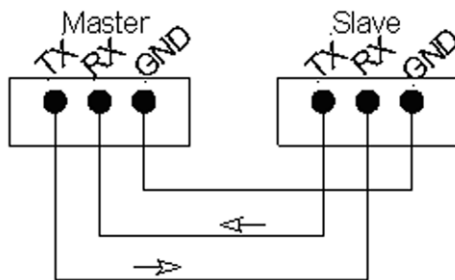

FIGURE 8. Serial Cable Diagrams
1. Setup the slave to receive data and the master to transmit data. Make sure the two (2) units are properly connected.
3. Using a 3-wire serial cable constructed as shown in Figure 8, connect the two (2) units together.